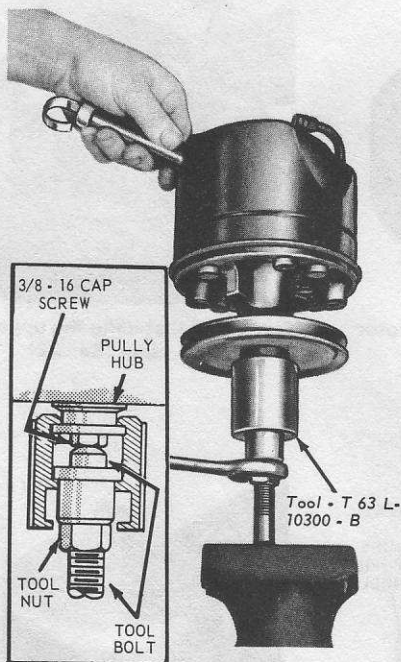

Fig. 11.27 Removing the power steering pump pulley (Sec 22)
- 11 Using a suitable puller remove the pump pulley. Install a  $\frac{3}{8}$  – 16 in capscrow in the end of the pump shaft to prevent damaging the end of the shaft (see Fig. 11.27). **Note:** To prevent damage to the internal thrust areas the pulley must be removed without applying in-and-out pressure on the pump shaft.